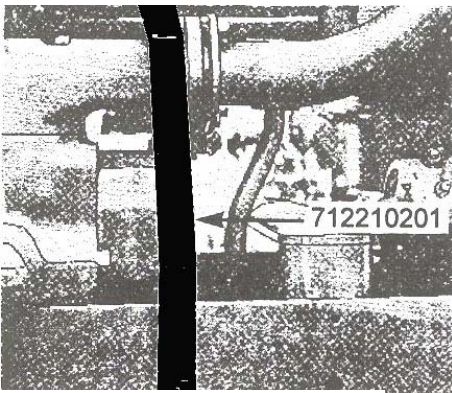

Figure 3
2. Attach # 712210201 Exhaust Guard to tractor frame See Figure 3